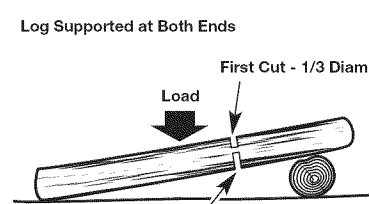

Fig. 24
- When the log is supported on both ends (Fig. 24): First, overbuck 1/3 of the way through the log to avoid splintering. Second, underbuck to meet the first cut and avoid pinching.